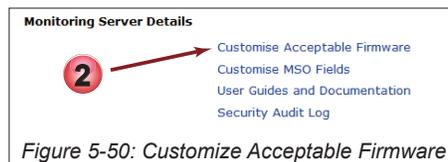

Figure 5-50: Customize Acceptable Firmware
This section, see Figure 5-50, provides links to two Monitoring Server configuration pages as well as a link to the operating manual (the one you are currently reading).
2. In the **Monitoring Server Details** section, click the **Customize Acceptable Firmware** link , Figure 5-50.